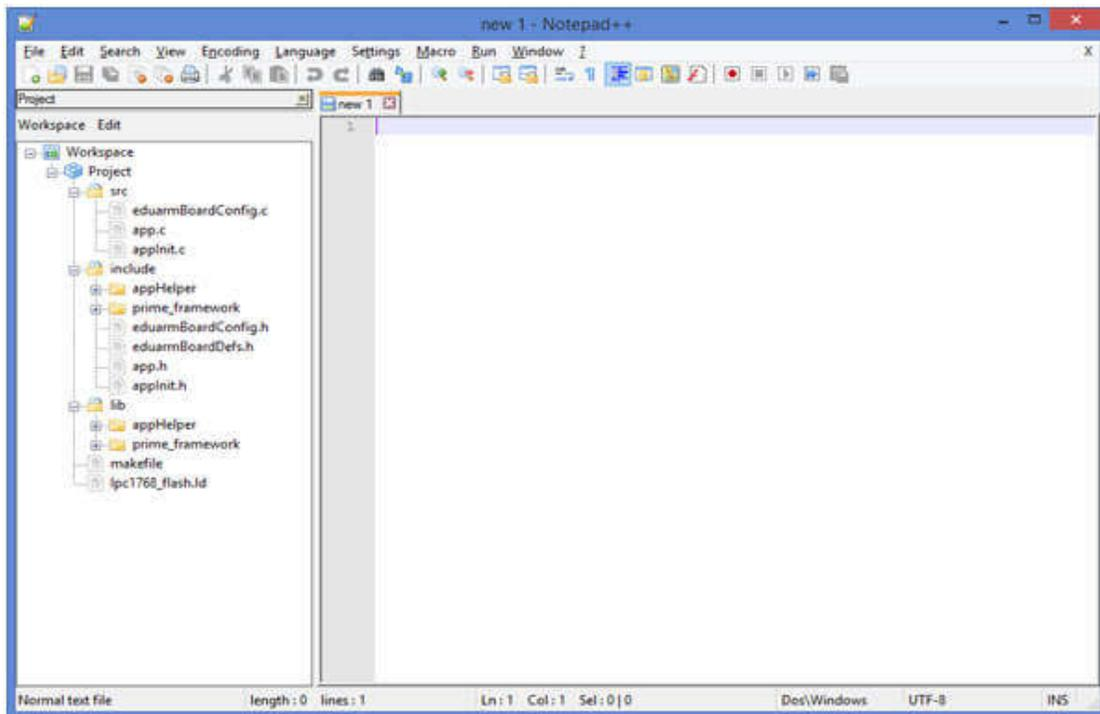

Figure 5: Project Folder Structure
- Select “**appWS.xml**” file from seed project and click open. Project folder appears. On expanding Project folder, contents as shown in Figure 5 are displayed.